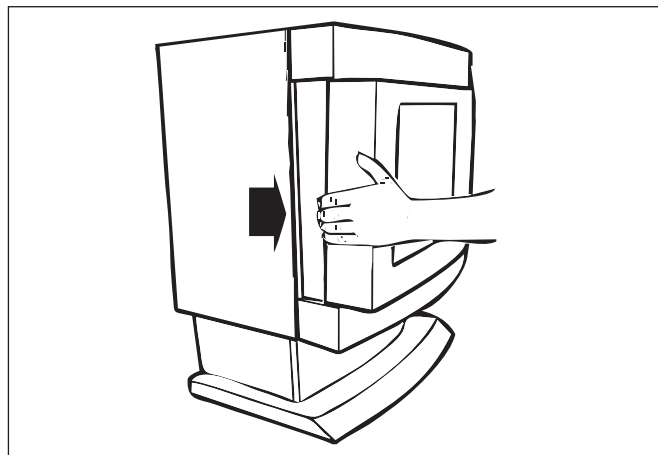

FIG 6
2. Remove the front glass surround by holding it firmly on either side and pulling it towards yourself. refer **FIG 6**.